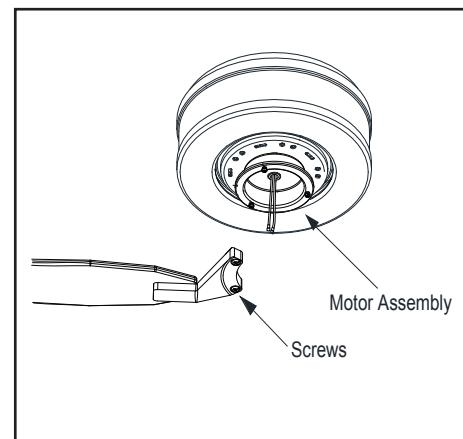

Figure 16
3. Fasten the blade assembly to the motor by inserting the alignment post into the slot on the bottom of the motor and tightening the motor screws. Please note that the motor screws are pre-attached into the blade brackets (Figure 16).